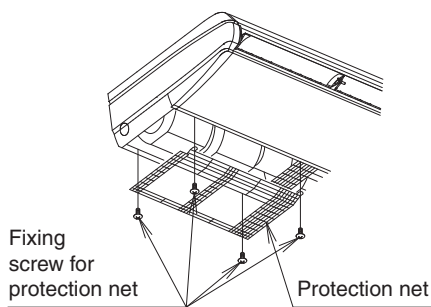
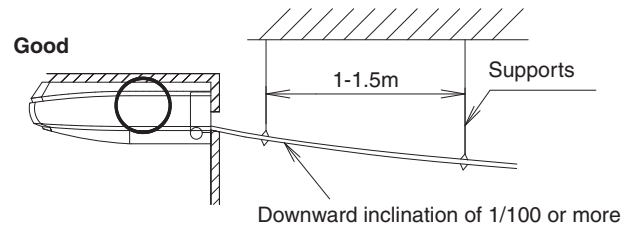
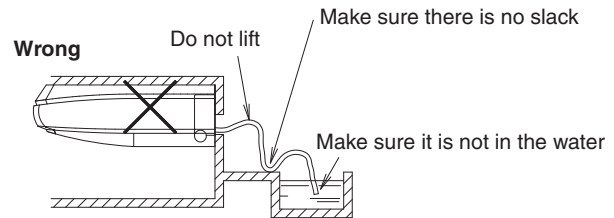

Fig. 22
Fig. 23
Fig. 24
After the drain hose (1) (accessory) installing, attach the protection net by reversing the steps taken to remove it. (Refer to **Fig. 22**)
- Select the piping diameter equal to or larger than that of the drain hose (1) (accessory) (polyvinyl chloride piping, nominal diameter 20mm, outside diameter 26mm).
- Install the drain piping as short as possible with downward inclination of 1/100 or more by avoiding air stagnation. (Refer to **Fig. 23** and **Fig. 24**)
- Install supports at a distance of 1 to 1.5m so that the piping may not deflect. (Refer to Fig. 23)